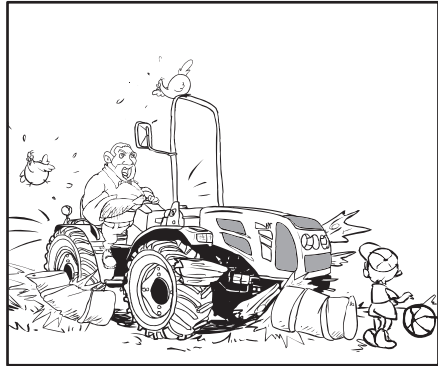

Fig. 2.10
*Before starting, always make sure that there are no people or obstacles in the tractor's range of action (Fig. 2.10).*